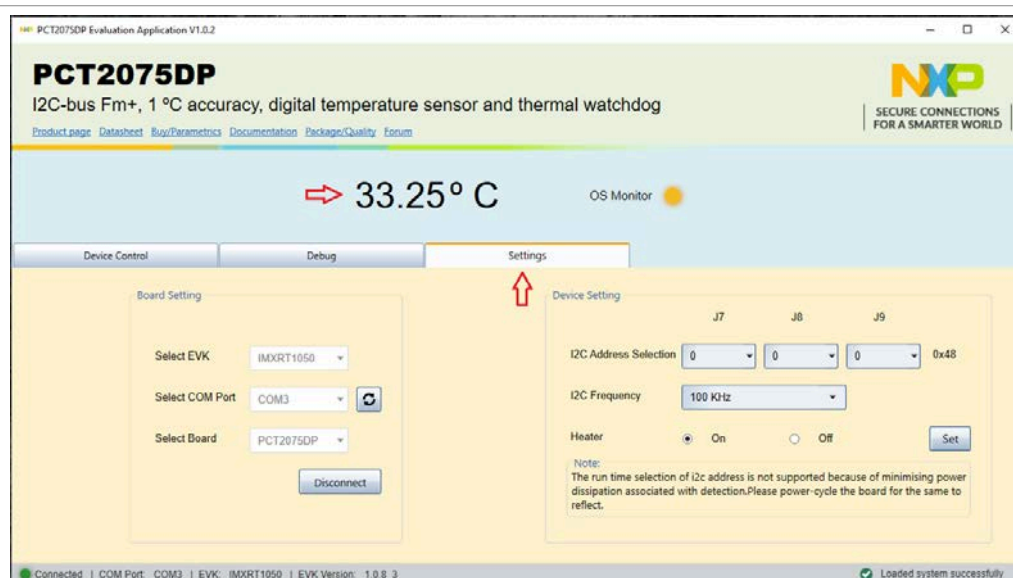

Figure 10. Graphical interface at start-up (“Settings” tab activated by default)
- **Select Board:** allows the user to select the correct daughter board (the application can support three different boards). In Figure 10, the selected board is PCT2075.